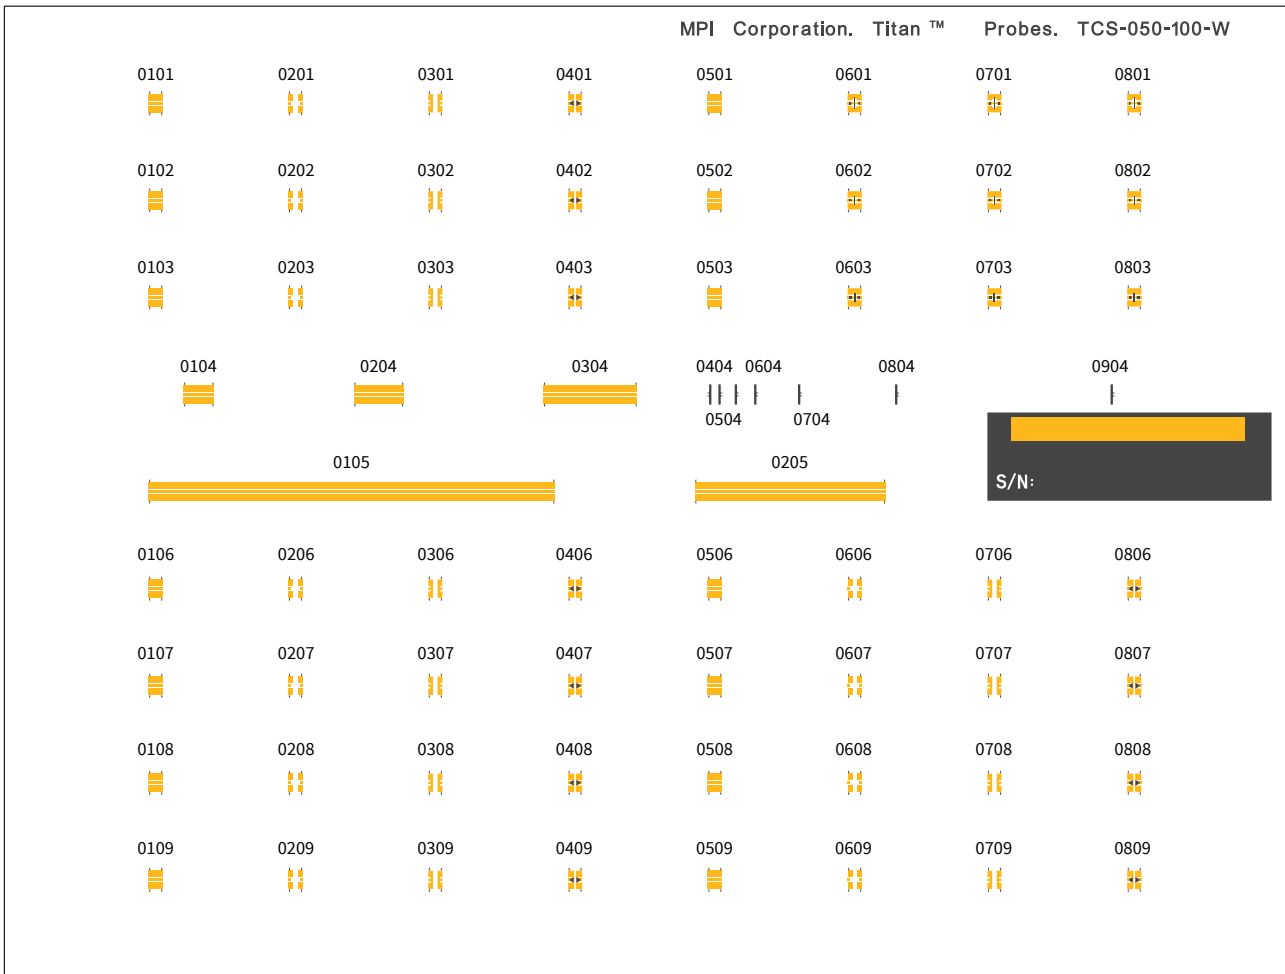

Figure 5. Image shows correct alignment and placement of TITAN™ Probe with standard 30 μm probe tip width.
- Step.1** Move the edge of the probe tips to reference plane X, as shown on the Figure 5 (left) and Figure 6 (left).
- Step.3** Apply overtravel by further adjustment of probe height using the Z-knob of the probe on the positioner until the edges of the probe tips reached the reference plane Y, as shown on the Figure 5 (right) and Figure 6 (right).